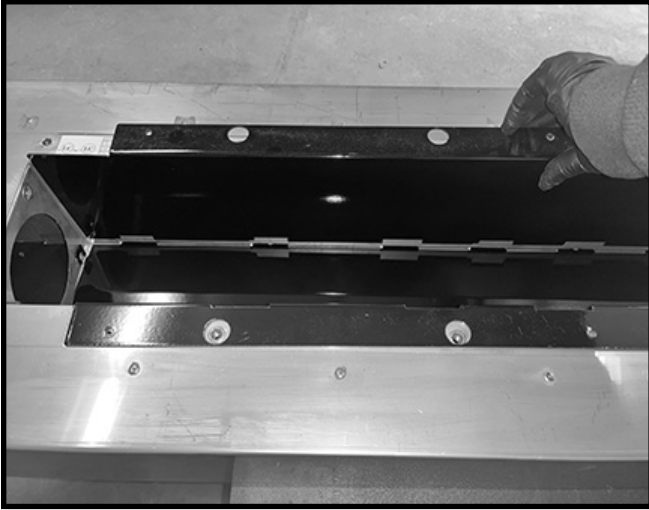

Figure 43: Reinstall porcelain panel.
4. Reinstall the decorative porcelain panel on the rating label side (Figure 43).